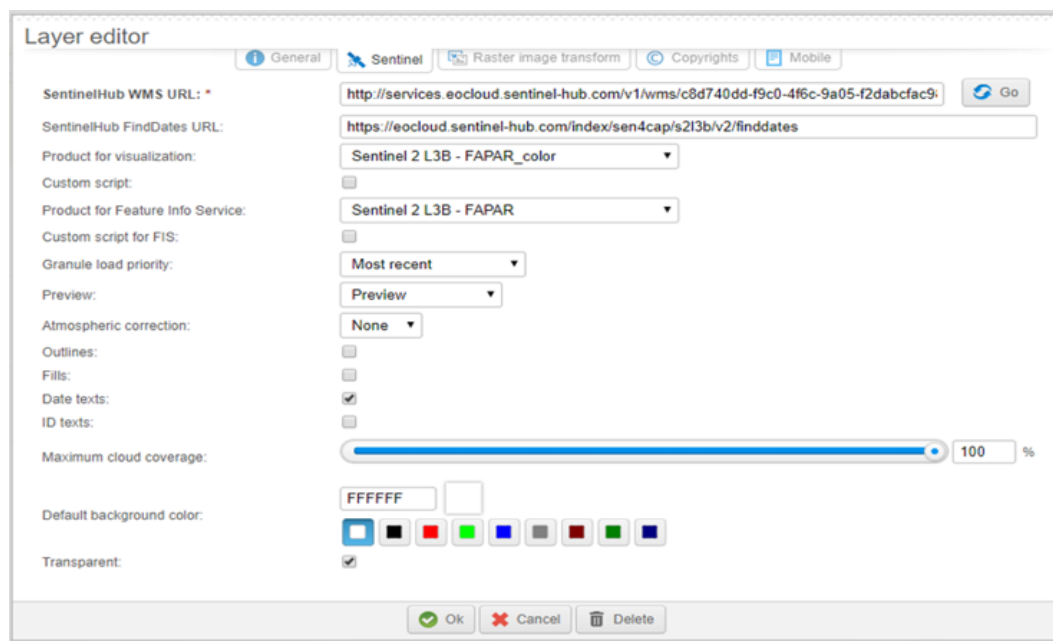

Figure 6-10. Settings for the Sentinel-2 L3A - FAPAR layer
- **Sentinel-2 L3A – FAPAR** (Figure 6-10)